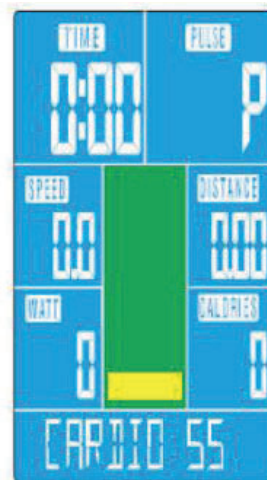

Fig. 15
3. Select the desired heart rate program (55%, 75%, 90% or TAG) with the UP/DOWN buttons and confirm with the MODE button (see fig. 15).